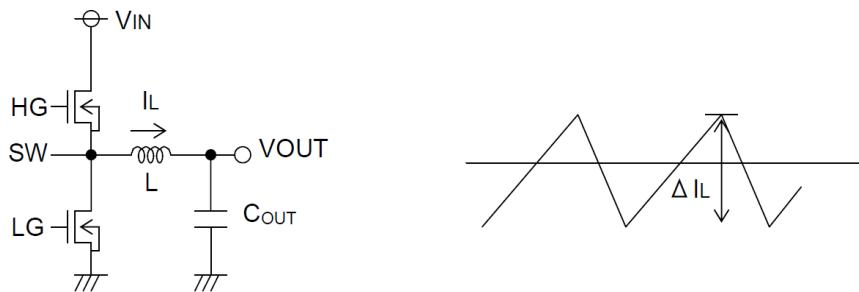

Fig 14: Inductor Ripple Current
Also, give consideration to the conditions in formula (5) below for output capacitance, bearing in mind that output rise time must be established within the fixed soft start time. As output capacitance, bypass capacitor will be also connected to output load side (C_{EXT} , Fig.14). Please set the over current detection value with regards to these capacitance.